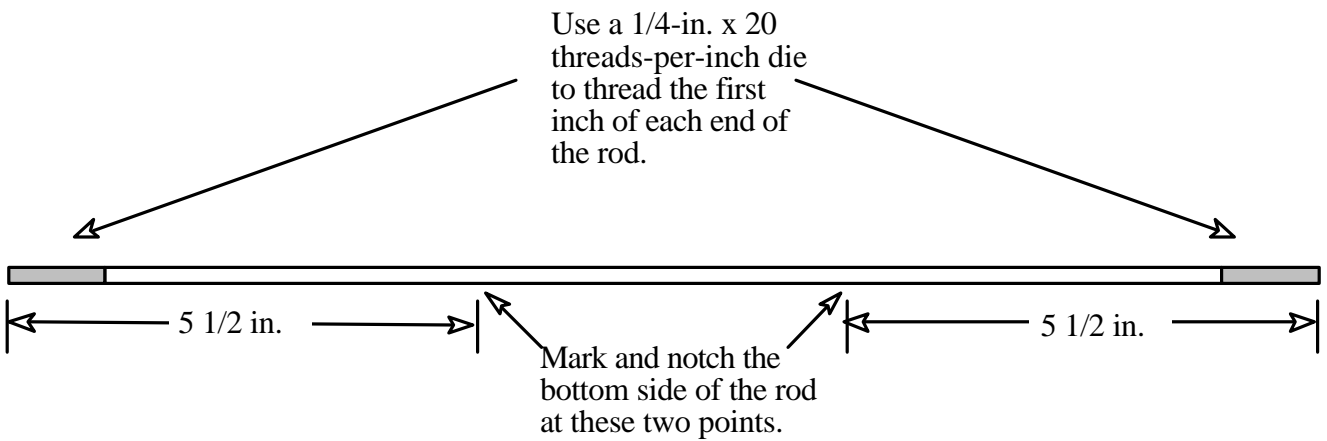

Figure 4: Steel rod 1/4-in. diameter x 14 in. long with threaded ends
3. Obtain a 1/4-inch diameter steel rod 14 1/2 inches long. Using a tap and die set, thread one inch of both ends of the rod. Use a 1/4-inch x 20-threads/inch die (see Figure 4).